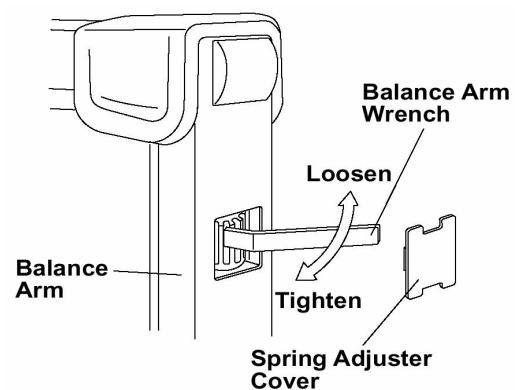

FIGURE 6.
2. If either balance arm drifts higher or lower from the set position, remove the spring adjuster cover and adjust the balance arm spring tension with the balance arm wrench. (FIGURE 6)